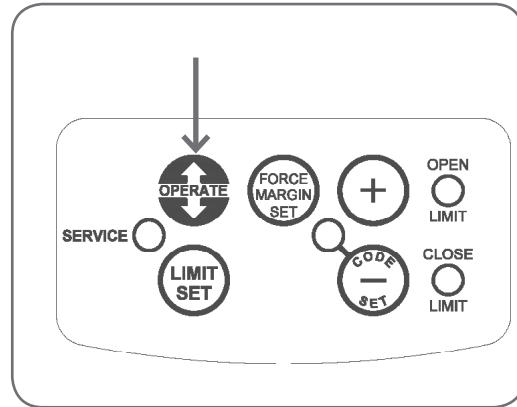

Fig.23
1. Press the OPERATE button to open the door (Fig.23).
1. Press the OPERATE button to close the door (Fig.23).